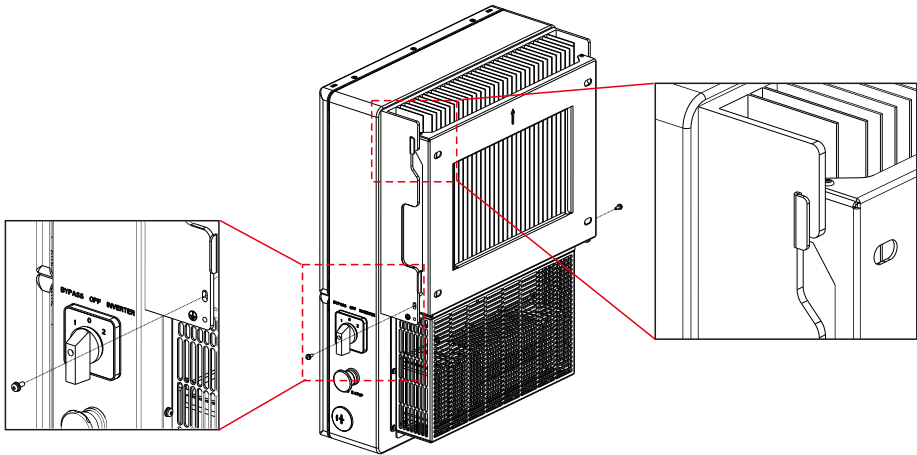

Figure 4.9 Inverter on mounting bracket and set screws
2. Lift up the inverter and align the back two hooks on the heat sync with the two tabs on the inverter mounting bracket. Lower the inverter hooks down onto the mounting bracket tabs and ensure the hooks have a solid bite before releasing the inverter. Then install the two set screws that are included with the inverter for stabilization. (see Figure 4.9)